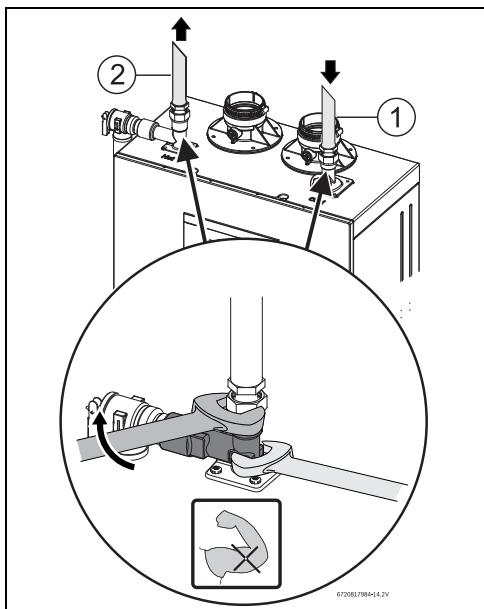

Fig. 28
- Tighten all water connections with the support of a wrench, see fig. 28.